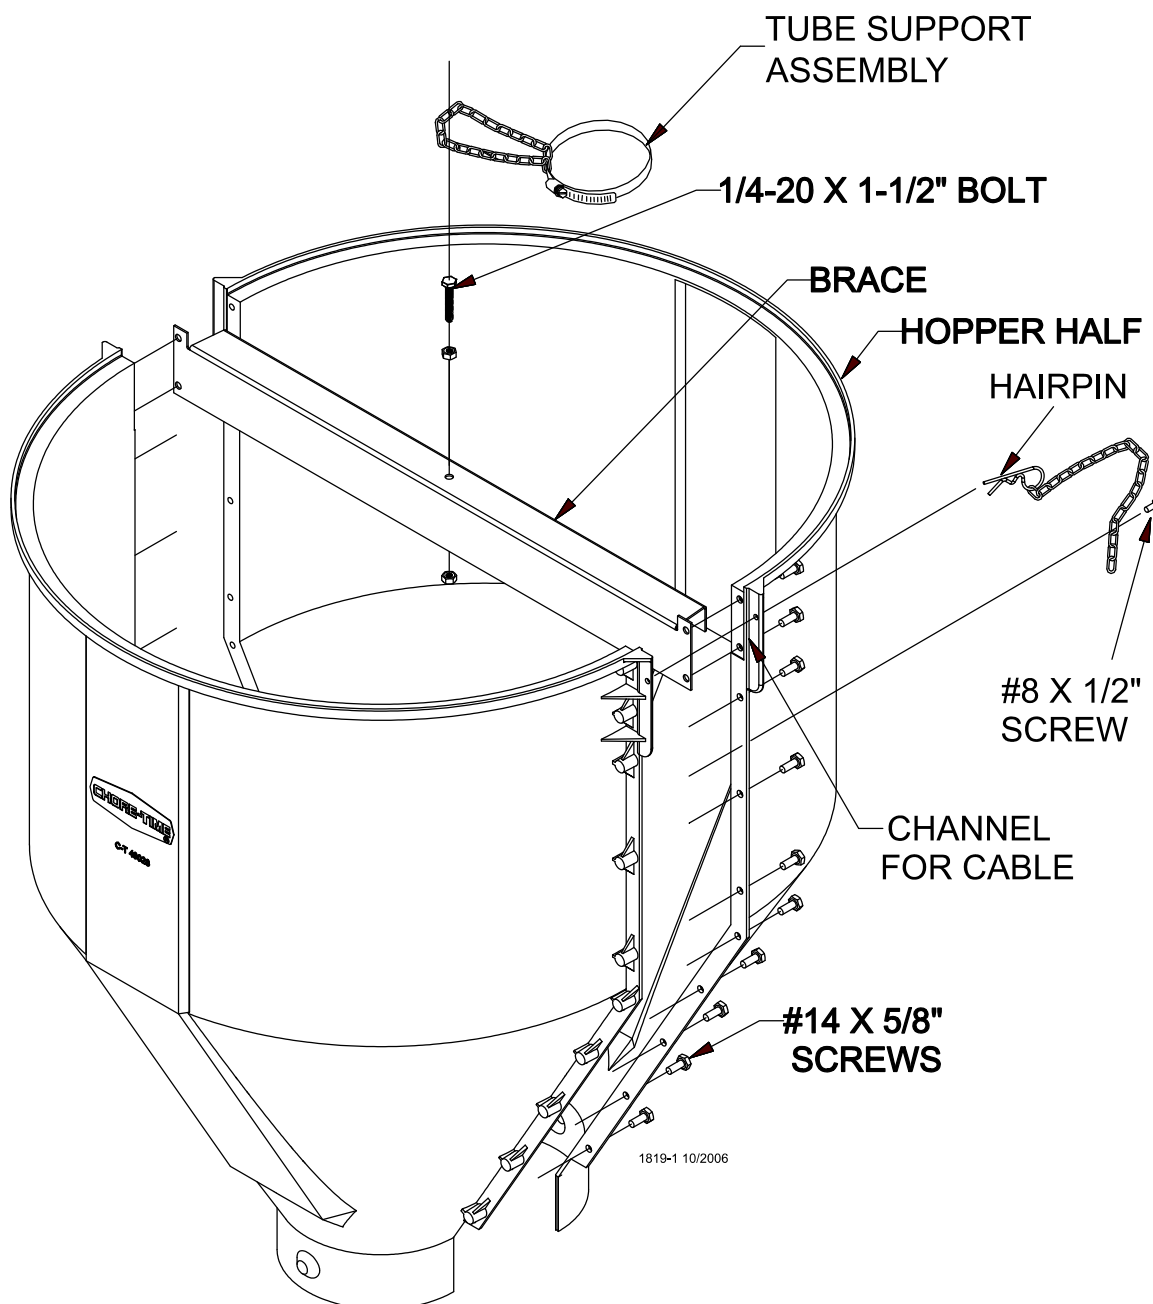

Figure 21. Hopper Assembly
1. Assemble the 1/4-20 x 1-1/2" bolt to the brace with two 1/4-20 nuts. One nut should be assembled under the brace with the other on top. This bolt is to provide a place for the tube support assembly chain to be hooked, see figure 21.
2. Assemble the 150 lb. hopper halves and brace as shown in Figure 21, using #14 x 5/8" screws (supplied in hardware package).
3. Assemble the #8 x 1/2" screws and chain as shown in Figure 21.